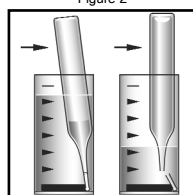

Figure 3
3. Immediately place the Vacu-vial ampoule, tip first, into the sample cup and snap the tip. The ampoule will fill leaving a bubble for mixing (fig 3).